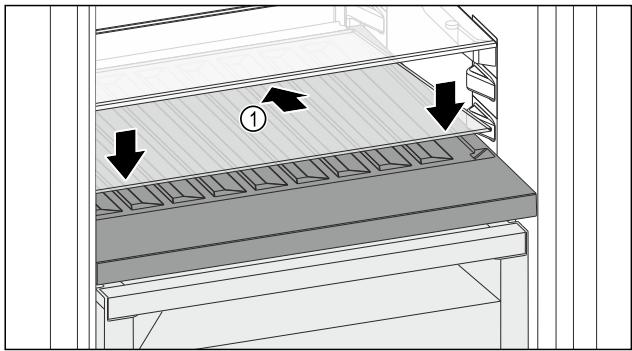

Fig. 99
- ▶ Place the glass shelf Fig. 99 (1) at an angle, sloping it downwards and backwards.
- ▶ Lower the glass shelf Fig. 99 (1) at the front.